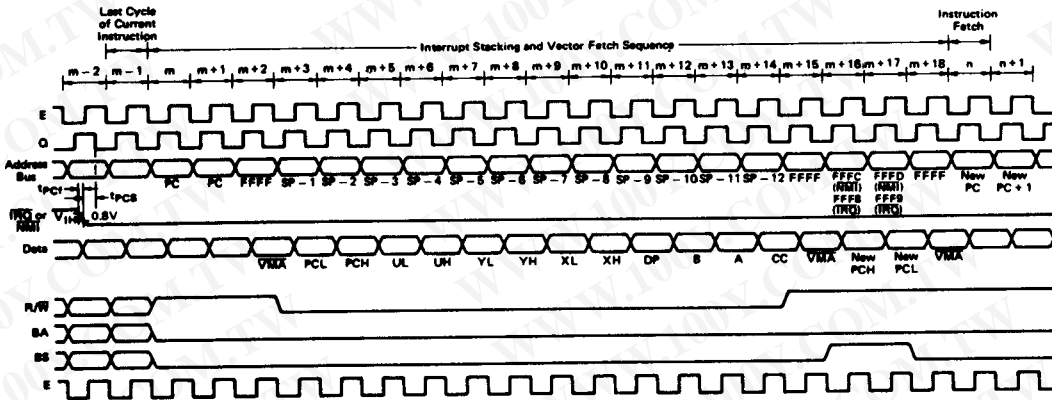

Figure 9 $\overline{\text{IRQ}}$ and NMI Interrupt Timing
hardware stack. After reset, an $\overline{\text{NMI}}$ will not be recognized until the first program load of the Hardware Stack Pointer (S). The pulse width of NMI "Low" must be at least one E cycle. If the $\overline{\text{NMI}}$ input does not meet the minimum set up with respect to Q, the interrupt will not be recognized until the next cycle. See Fig. 9.
A "Low" level input on this pin will initiate an interrupt Request sequence provided the mask bit (I) in the CC is clear. Since $\overline{\text{IRQ}}$ stacks the entire machine state it provides a slower response to interrupts than $\overline{\text{FIRQ}}$. $\overline{\text{IRQ}}$ also has a lower priority than $\overline{\text{FIRQ}}$. Again, the interrupt service routine should clear the source of the interrupt before doing an RTI. See Fig. 9.